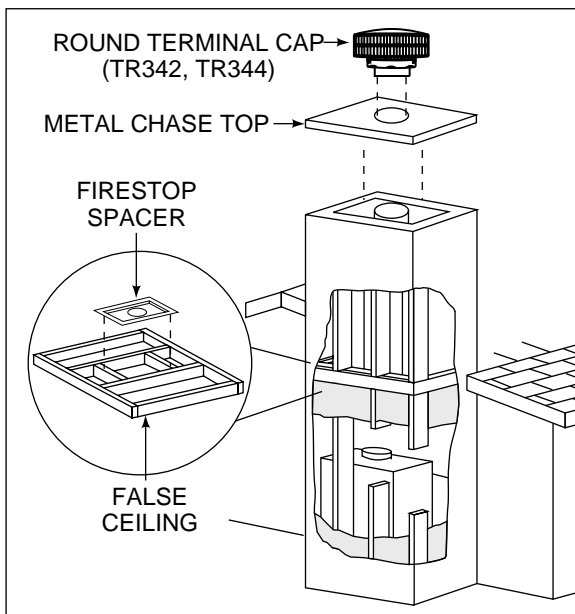

Figure 21
- e. In cold climates, the walls of the chase should be insulated to the level of the false ceiling as shown in Figure 21. This will help prevent heat loss from the home around and through the fireplace.